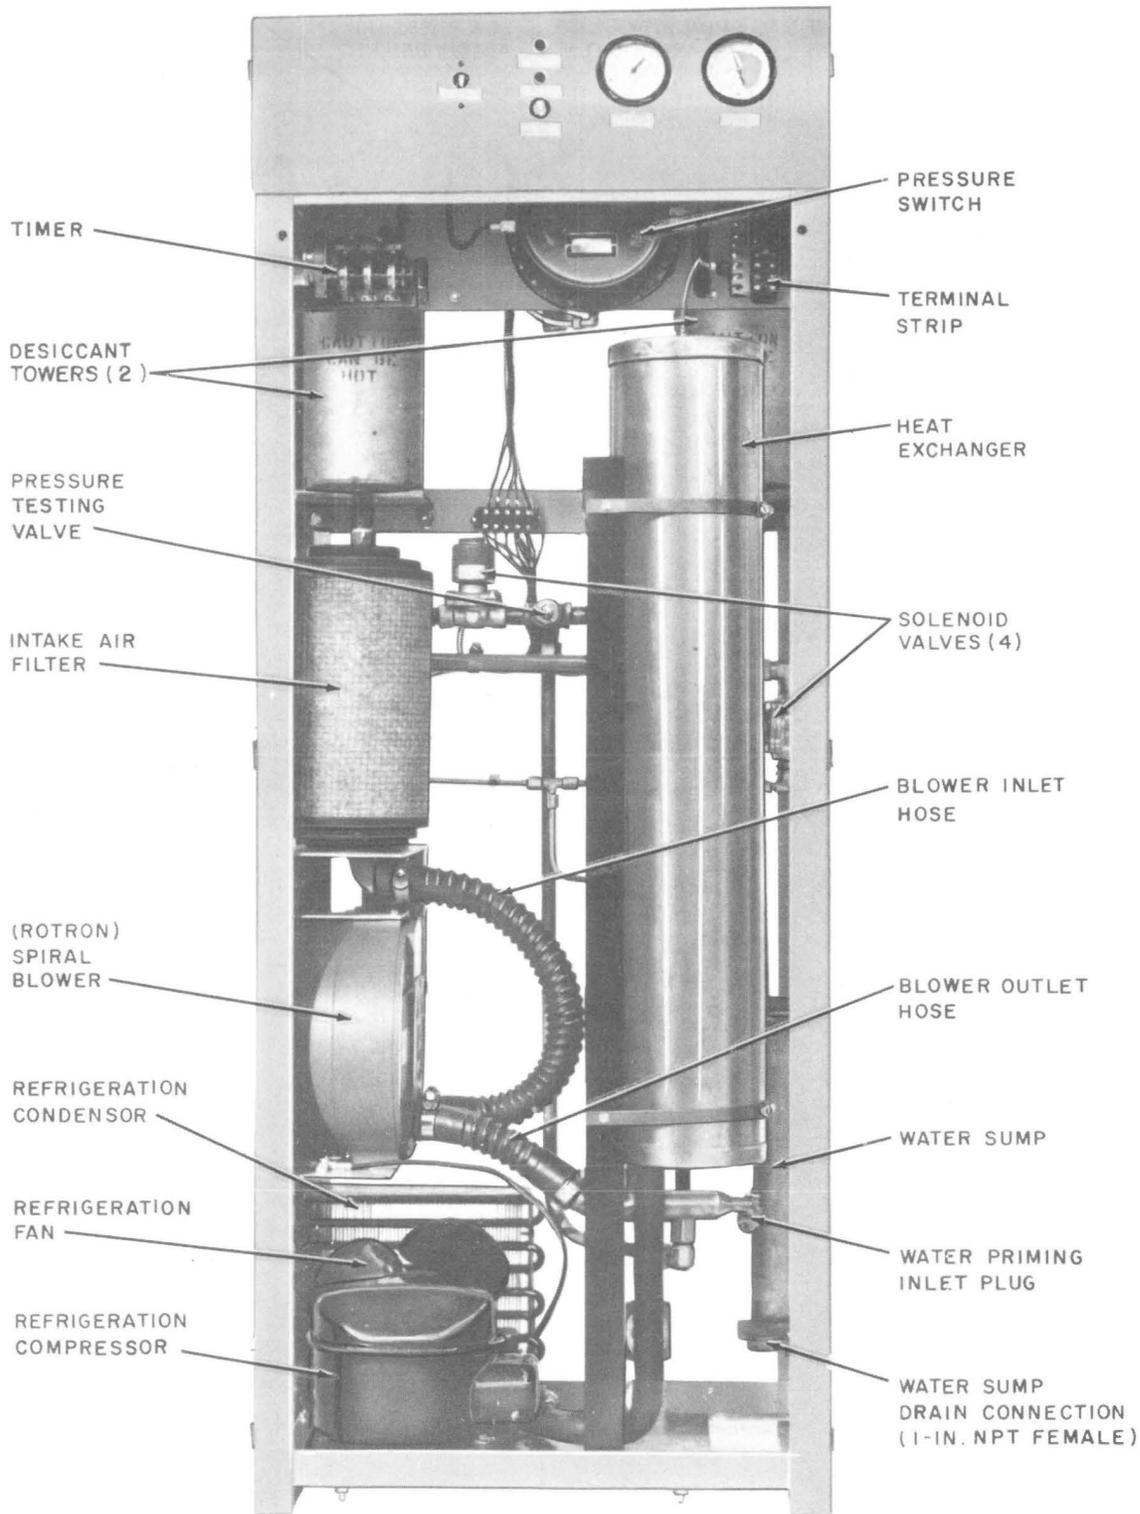
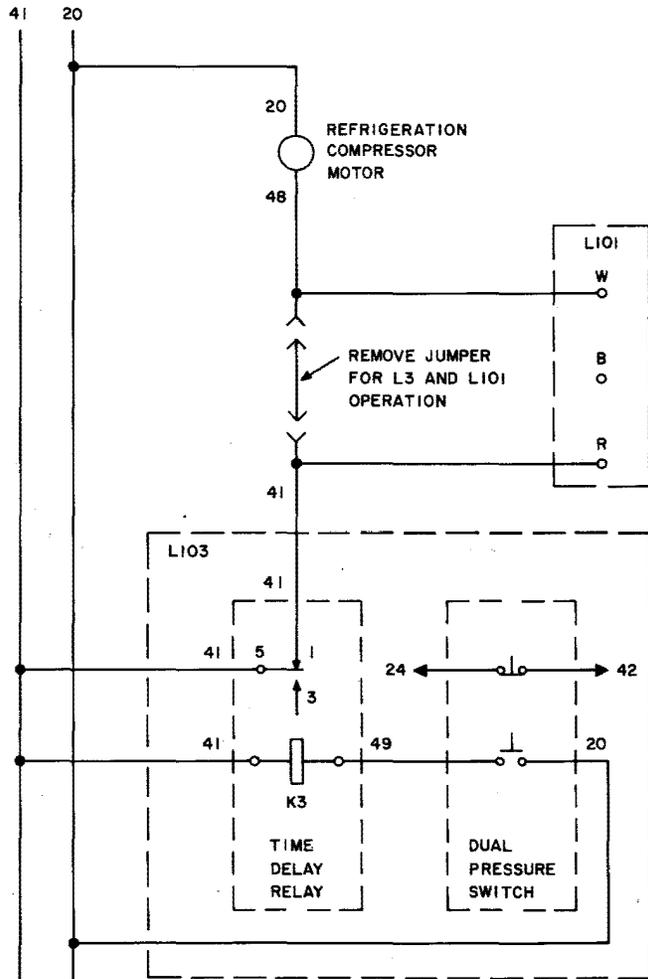

Fig. 2—KS-20183 L2 and L3 Air Dryers—Front Cover Removed
Fig. 9—Wiring for L101 and L103 Modification Kits
1.06 Both the L2 and L3 dryer cabinets house the following major components (Fig. 2 through 6):
- (1) Shut off power to the air dryer and disconnect ac power supply.
- (2) Disconnect the input and output hoses from the blower (Fig. 2).
- (3) With a Phillip's head screwdriver, remove the four screws holding the blower face plate.
- (4) Close the trimmer valve with a screwdriver.
- (5) Remove the adjusting screw (furnished with kit) from the adaptor block.
- (6) Place the adaptor, block over the ports of the blower face plate and secure with four set screws provided.
- (2) Disconnect all leads and copper tubing from the KS-5793 L3 pressure switch (Fig. 2) and remove switch from unit.
- (3) Install dual pressure switch provided with kit using the same screws removed in Step 2.
- (4) Wire leads 42 and 24, which were disconnected from the KS-5793 L3 pressure switch in Step 2, should be reconnected to the terminals located in the top right hand corner of the new switch.
- (5) Using the front mounting bracket provided with the relay as a drilling templet, drill four (4) 3/16 inch holes in the left hand horizontal support bracket.
- (6) Mount the bracket to the relay and the relay assembly to the air dryer horizontal support bracket using screws, nuts, and lockwashers provided with kit.
- (7) Using an adjustable wrench, remove top cover of relay and check time delay setting of 120 seconds (2 minutes).
- (8) Using the 12 feet of wire provided with the kit, wire time delay relay, pressure switch contacts (top left hand terminals), and lead 41 located at terminal strip as shown in Fig. 9.
- (9) Resume proper operation of the air dryer and set dual pressure switch as follows: